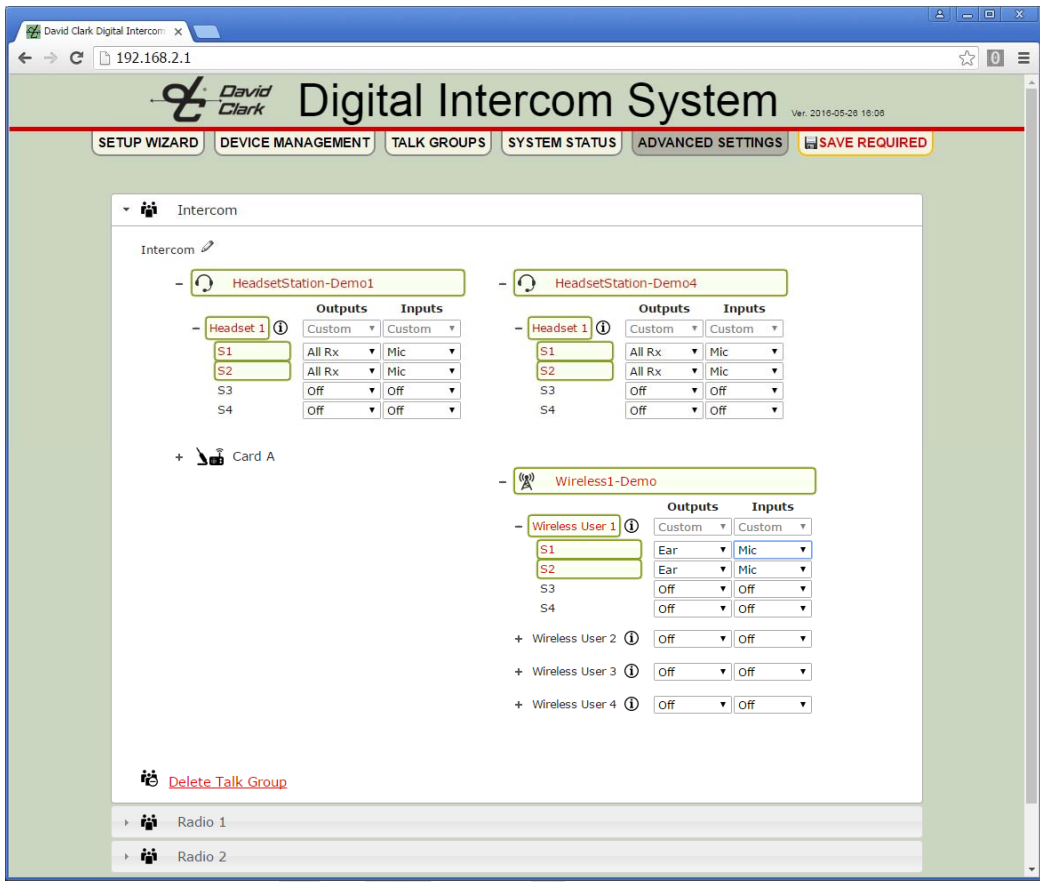

Figure 8.16 Talk Group Example 4 - Intercom
21. See **Figures 8.16, 8.17, and 8.18.**